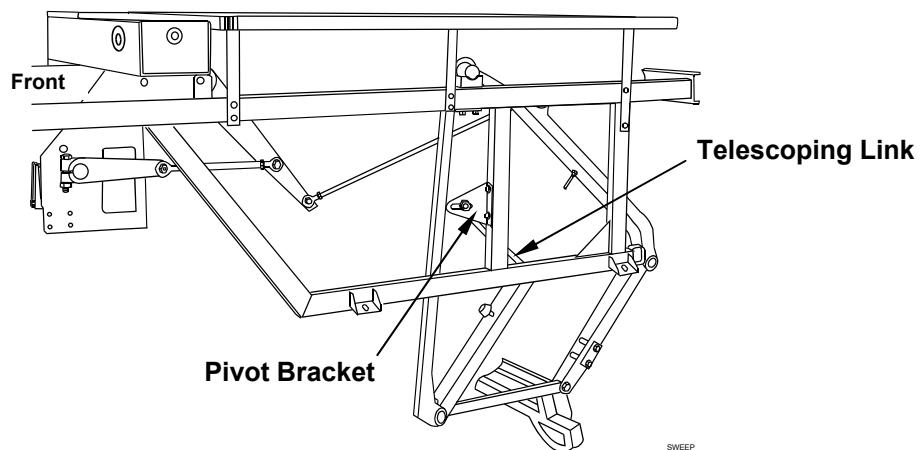

Figure 4.2-26
- a. To increase the clearance between the sweep bar and the pin deck, loosen the nut where the telescoping link connects to the slotted pivot bracket on the vertical frame member (see Figure 4.2-26), and move the end of the telescoping link toward the front of the pinspotter. Retighten the nut.